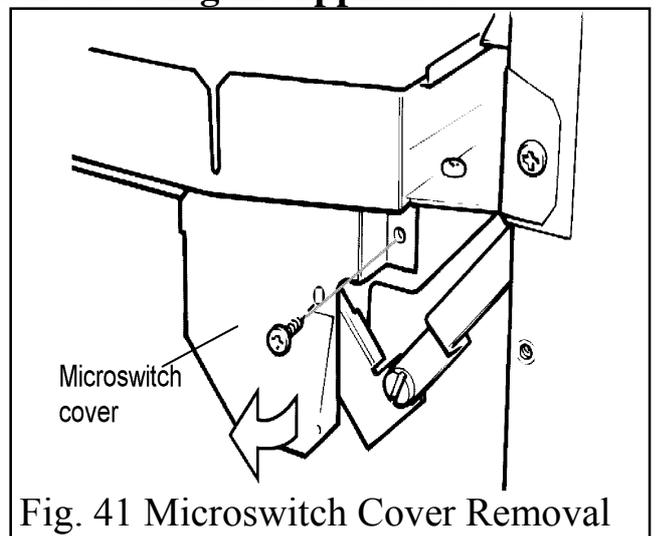

Fig. 41 Microswitch Cover Removal
See figures 41 & 42.
2. Detach the microswitch cover by removing one screw and pulling clear of the location lug. See figure 41.
See figures 41, 42 & 43.